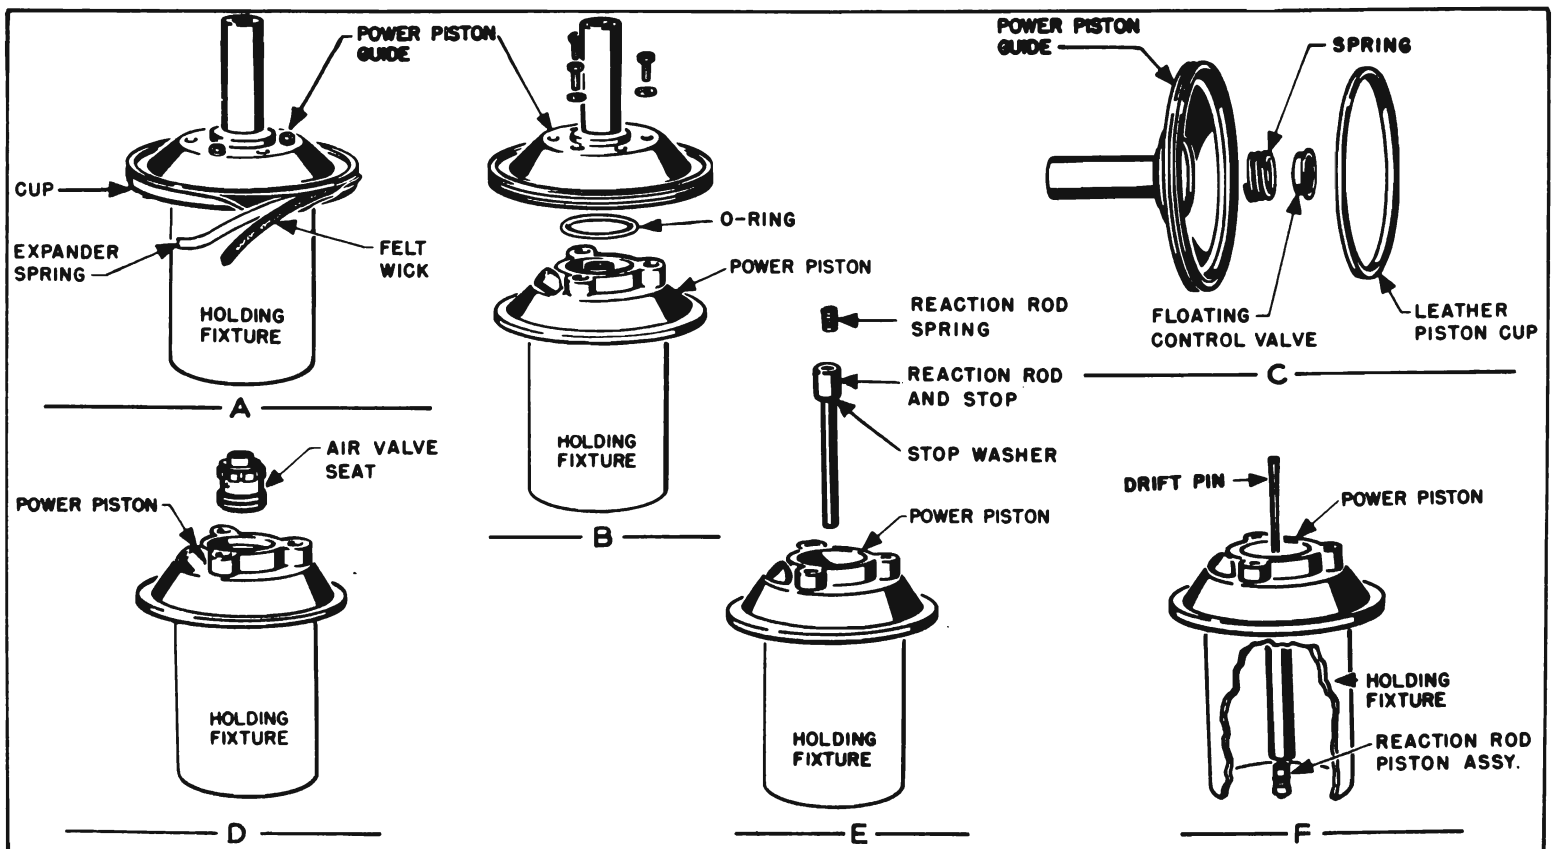

Figure 8-8—Disassembly of Piston and Guide
9. Bend back lip of leather piston cup, remove felt wick and expander spring. See figure 8-8, view A.
10. Remove three bolts with lockwashers then remove the guide assembly and O-ring from power piston. See figure 8-8, view B.
11. Remove leather piston cup, floating control valve assembly and spring from piston guide. See figure 8-8, view C.
12. Remove air valve seat from power piston (fig. 8-8, view D), then lift out the control spring (if present), reaction rod spring, reaction rod, and the dampener spring (if present). See figure 8-8, view E. **NOTE:** *Control and dampener springs will be found in Series No. 1 units only. Discard these springs because they will not be reinstalled.*
13. Use a drift pin to push out the reaction rod piston assembly located in lower end of piston sleeve. See figure 8-8, view F. Remove O-ring and cup from piston, using extreme care to avoid marring piston surface.